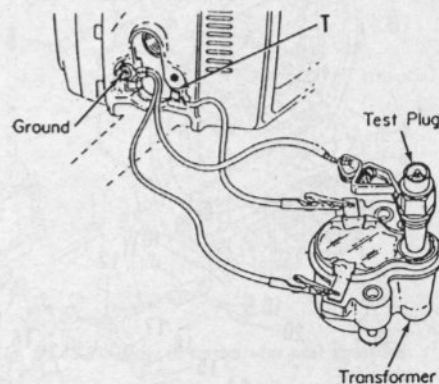
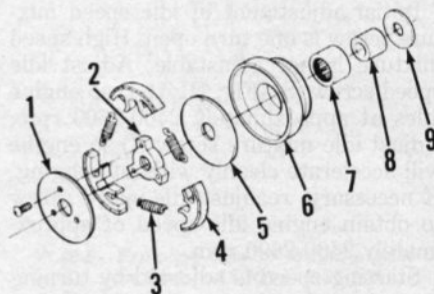

Fig. HL41-3—A test plug may be used to determine if ignition system is operating correctly. See text.
Fig. HL41-6—Exploded view of clutch used on DM-50 Multi-Purpose Saw.
RECOIL STARTER. Refer to Fig. HL41-3 for an exploded view of starter assembly.
Clean and inspect components. Lubricate sides of rewind spring with a small amount of Homelite® ALL-TEMP Multi-Purpose grease or a lithium base grease. Do not oil spring. Install inner spring shield (22), rewind spring (20) and spring lock (21) in cover with spring wound as shown in Fig. HL41-6. Install outer spring shield (19—Fig. HL41-3) and snap ring (18). Install inner washer (15). Insert bushing (17) in rope pulley (16) being sure knobs on bushings align with notches in pulley. Slide pulley onto post in cover and check to be sure splines on pulley engage splines in spring lock. Install and tighten capscrew (13) to 45 in.-lbs. Wind rope around pulley in clockwise direction as viewed from screw end of pulley. Set cover in housing. Pull rope handle and then allow rope to rewind so that starter pawls will be forced open and pulley hub can slide between them into place. Turn cover clockwise 2 or 3 turns to preload rewind spring, snap plastic screen into place and install cover screws. Check starter operation.